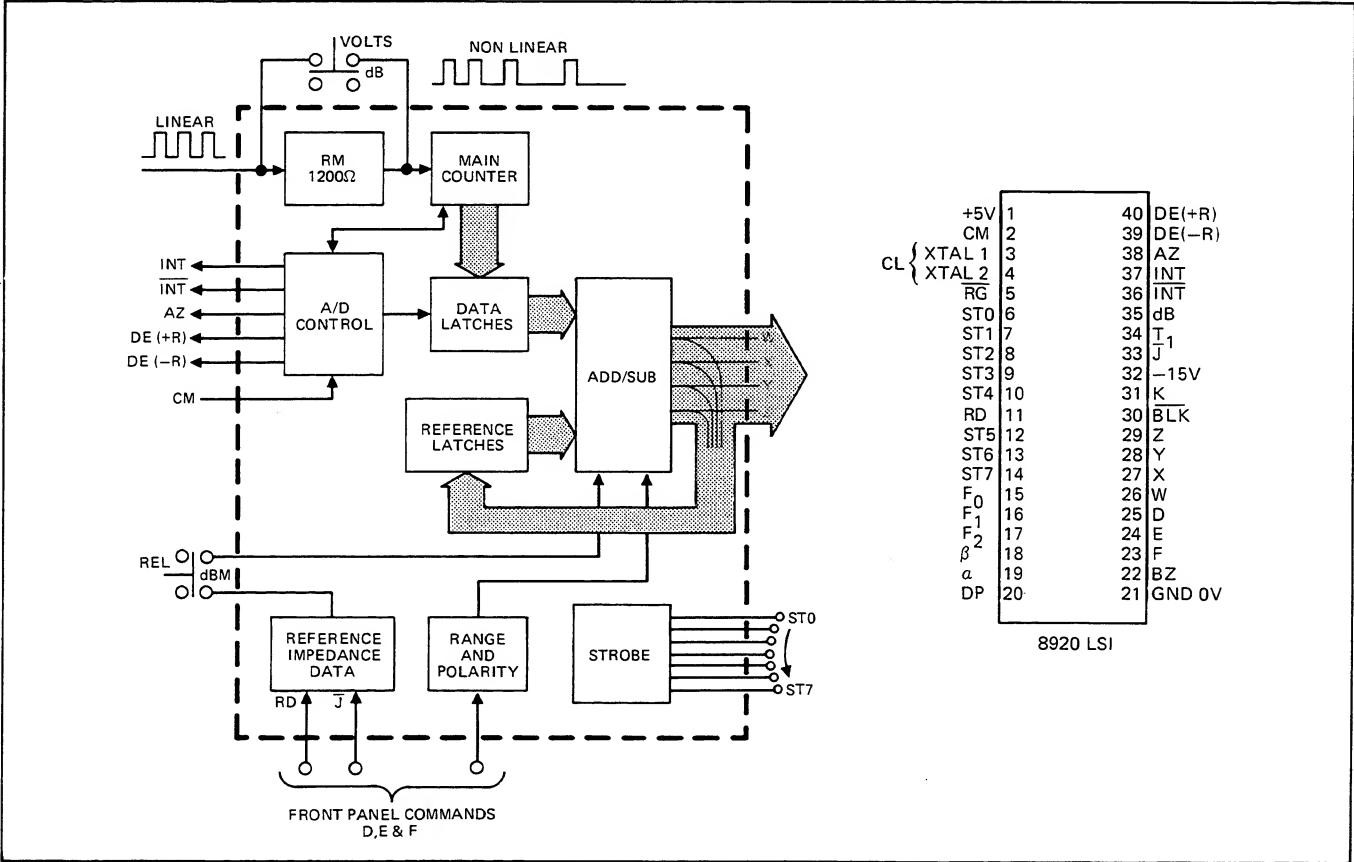

Figure 3-7. Controller Functions
non-linear (dB) scale and display its count in dB units. A summarized description of each input and output pin used on the controller is give in Table 3-2 and shown in Figure 3-7.
3-31. To make a voltage measurement the controller must linearly count clock pulses for a time determined by the A/D converter. Referring to Figure 3-7, you can see that when the dB/VOLTS switch is placed in its up (out) position the rate multiplier (RM) will be shunted and the main counter will count the number of clock pulses exactly as they occur (linear). As soon as the integrator in the A/D converter reaches the auto-zero point, CM will go high, commanding the main counter to stop counting and start shifting its count to the data latches. A count of clock pulses, in BCD format, that is proportional to the true rms value of the signal being measured. The BCD data is then shifted out of the controller, to a seven-segment decoder on four lines: W, X, Y and Z.
3-33. If the dB/VOLTS switch is in the dB position, a non-linear count of the clock pulses is enabled. The binary rate multiplier (RM) passes only a fraction of the clock pulses on to the controller's main counter (see the illustrated input to the main counter on Figure 3-7). This count approximates the logarithmic curve of the dB scale and, like the VOLTS mode, is stored in the data latches.
3-37. Referring to Figure 3-7, let's assume that a 600 ohm reference impedance is selected and the instrument has previously made a relative measurement. Strobe zero will be applied to RD until the REL/dBm switch is placed in its dBm position. At this time strobe 4 (corresponding to 600 ohms) is applied to RD and causes the controller to select the 600 ohm reference impedance data. This data along with the range and polarity data is then shifted to the ADD/SUB where it is combined with the count referenced to 1200 ohms. The resultant value is now equivalent to a dBm reading referenced to 600 ohms. The range and polarity data is held in the reference latches until RD or J detect a strobe change or unless the instrument is turned off. (Switching to the VOLTS mode will not cause the data in the reference latches to be lost.)
3-40. Referring the Figure 3-7, you can see that upon selection of the REL mode, the reference impedance data line will be disabled. However, to make a relative